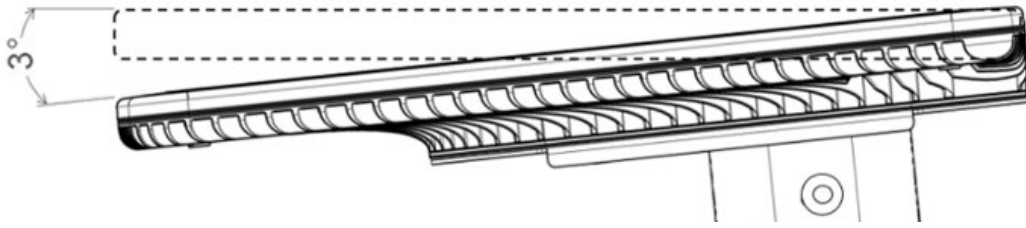

Figure 30: Tilting the ODU forward to 3-degrees
7. The stanchion is adjustable and allows for pivoting around the lower bolts. These bolts were installed first in step 4 when connecting to the mount and left loose enough to allow pivoting. The curved slot in the center of the stanchion on either side controls the angle of the stanchion, which can be locked in place using the proper bolts. The ODU requires 3-degrees of forward tilt where forward is the direction away from the bridge along the short side of the panels (shown in Figure 30). An inclinometer must be used to ensure the ODU is at the desired 3-degrees of forward tilt, after which all four bolts may be tightened to their respective torques.